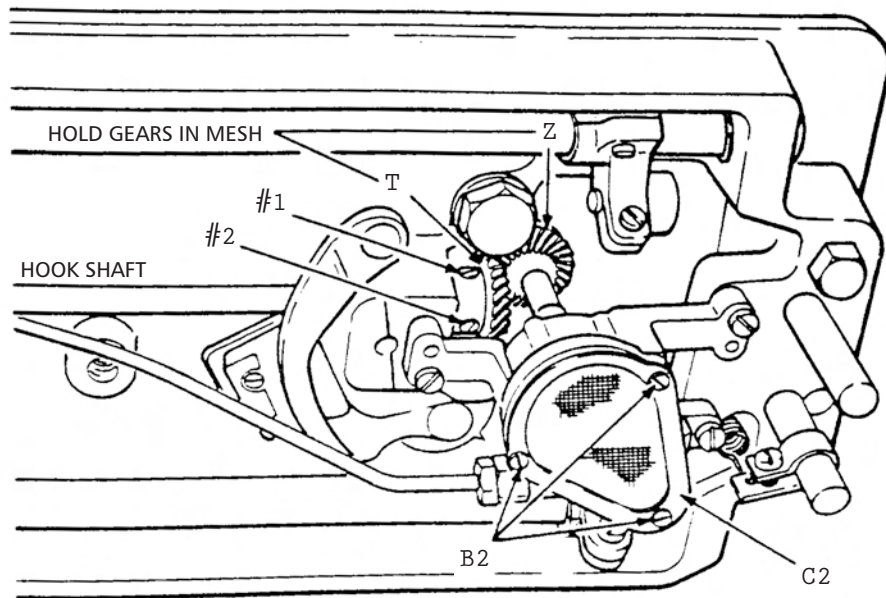

Fig. 17
2. Mark the two lower bevel gears Z and T, Fig. 17, with chalk or crayon, on one tooth of one gear and the corresponding space for that tooth in the other gear. This is important, as these gears may become separated during removal of shaft. These marks will then make it possible to obtain the original mating position of the gears.
3. Loosen the two set screws #1 and #2 in hook shaft bevel gear. While holding the two gears Z and T in mesh, as instructed in Fig. 17, withdraw the old hook shaft and INSERT THE NEW SHAFT.
5. Make certain that set screw #1 seats over flat on the hook shaft. Remove all end shake from hook shaft, pushing gear T, Fig. 17 toward the hook on the shaft. Securely tighten first set screw #1, then securely tighten the second screw #2.
2. Remove the three screws B2, Fig. 17.
3. Remove the screen frame, screen and oil pump cover C2, Fig. 17,
5. Replace pump cover, screen and frame C2 and three screws B2, Fig. 17. Securely tighten screws B2.
2. Follow the instructions in Steps 2 and 3 for removal of hook shaft on page 10 except that, instead of removing hook shaft, merely remove hook shaft bevel gear T, Fig. 17.
1. Before installing upright arm shaft, make certain it has the bevel gear Z, Fig. 17 correctly fastened at the lower end of shaft.